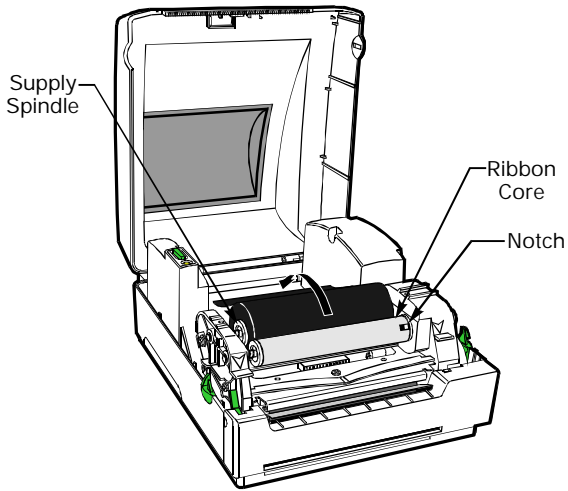

Figure 27
2. Install an empty ribbon core (notched end to the right) as shown in Figure 27. This becomes the ribbon take-up spindle.
4. Install the ribbon roll on the ribbon supply spindle (refer to Figure 27). Make sure the ribbon unwinds over the top of the roll and feeds toward the back of the printer.